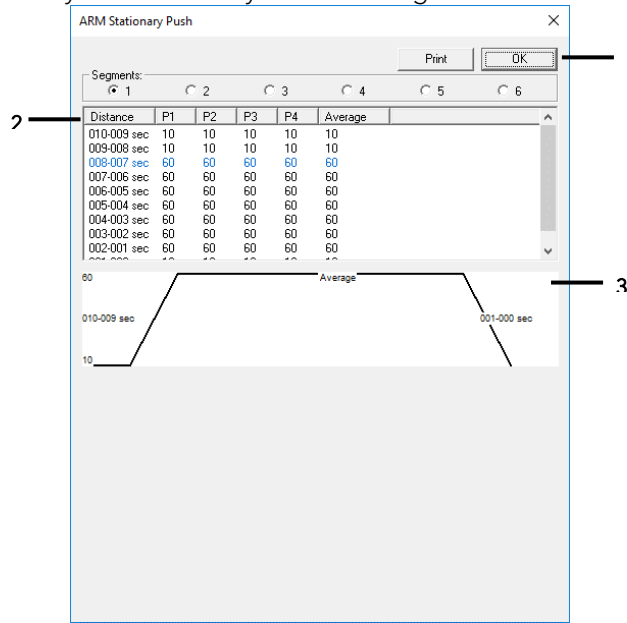

Figure 205: ARM Stationary Push Summary Window
c. Refer to *ARM Stationary Push Summary* window in Figure 205.